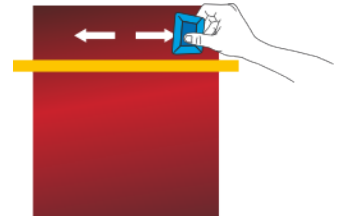

Figure 04
- › Start applying the film with a squeegee (previously covered with felt), by forming a 45° angle with the substrate, and by working from the centre towards the edges. (FIG. 04)